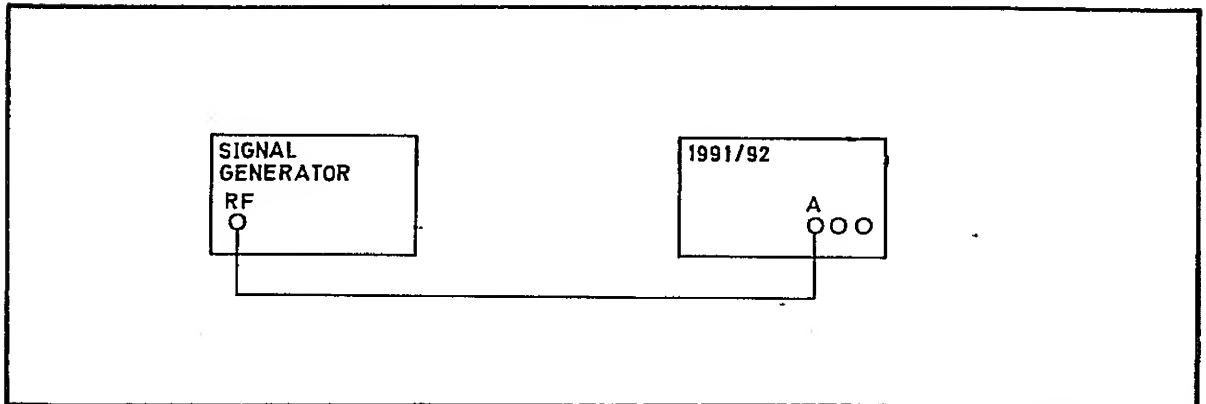

Fig 7.21 Connections for Minimum Time Interval PVP
- (1) Connect the test equipment as shown in Fig 7.21.
- (2) Select 50 Ω on channel A, T.I. A B and COM A.
- (3) Set the signal generator output to 100 MHz at a level of 1 V.
- (4) Verify that a display of $0 \pm 2\text{ns}$ is obtained.
- (5) Disconnect the test equipment.